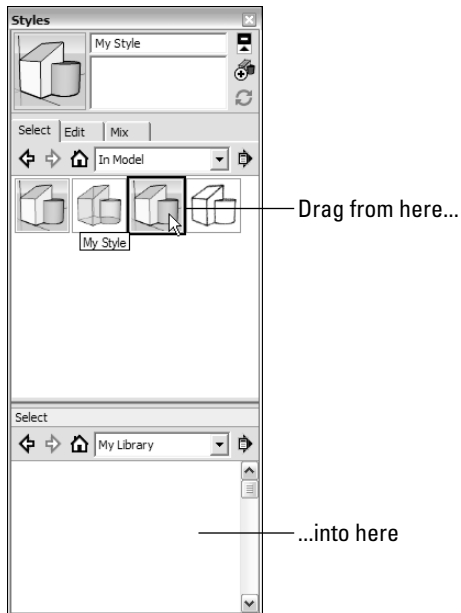

Figure 8-20:
5. **Drag your style *from* the In Model styles list *to* the Styles list in the secondary selection pane (see Figure 8-20).**